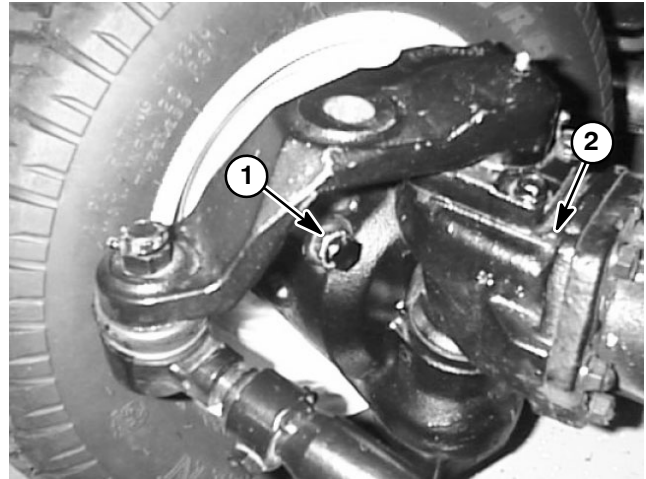

Figure 12
15. Check steering stop bolt adjustment. When the steering cylinder is fully extended (right turn), a gap of 1/16" (1.6 mm) should exist between bevel gear case casting and stop bolt on left axle case. Figure 12 shows stop bolt location.